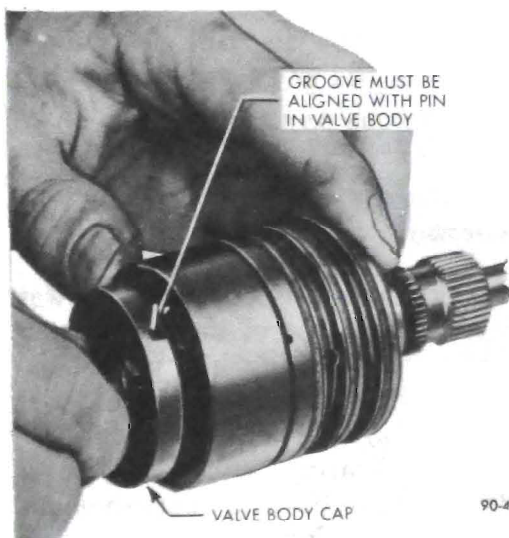

Figure 90-58 Assembling Stub Shaft, Torsion Bar and Cap Assembly in Valve Body
3. Assemble the stub shaft torsion bar and cap assembly in the valve body, *aligning the groove in the valve cap with the pin in the valve body.* See Figure 90-58. Tap lightly on the cap with a soft mallet until cap is against the shoulder in the valve body. *Valve body pin must be in the cap groove.*